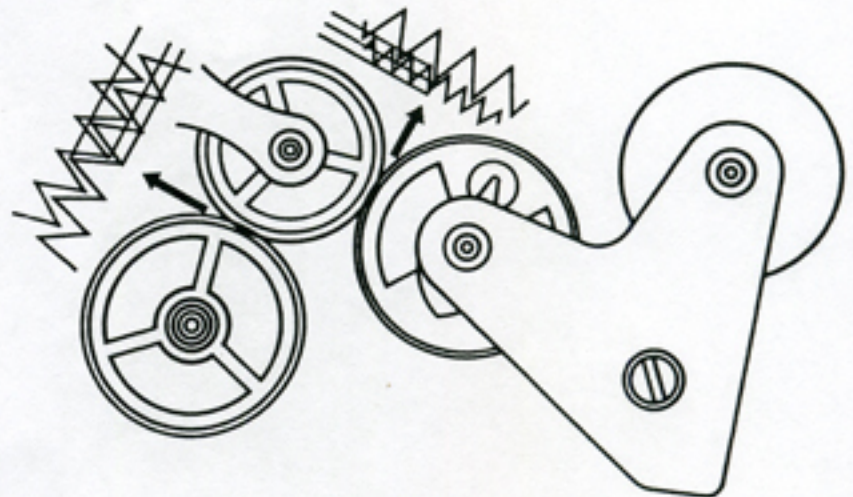

Fig. 15
- 3.1.13. Check the depth of the gearing (fig. 15).